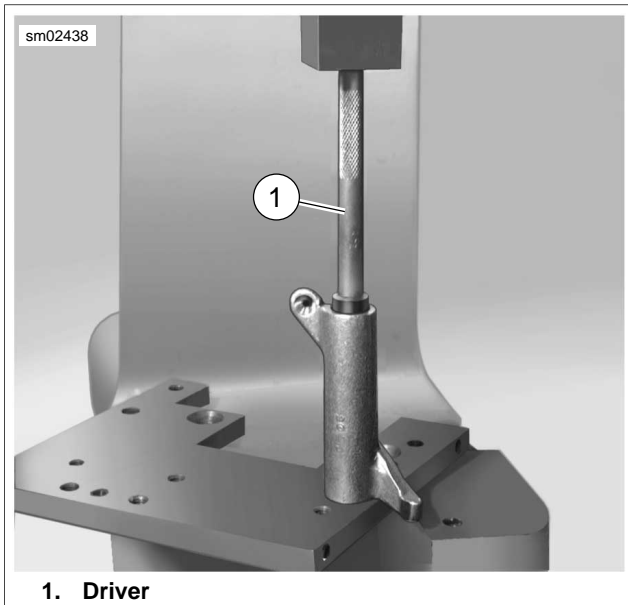

Figure 3-80. Install Bushings
2. See Figure 3-80. Using a suitable driver, press **new** bushing into side of rocker arm until flush with casting. Be sure to orient bushing so that split line faces top of rocker arm. Repeat step to install second bushing.